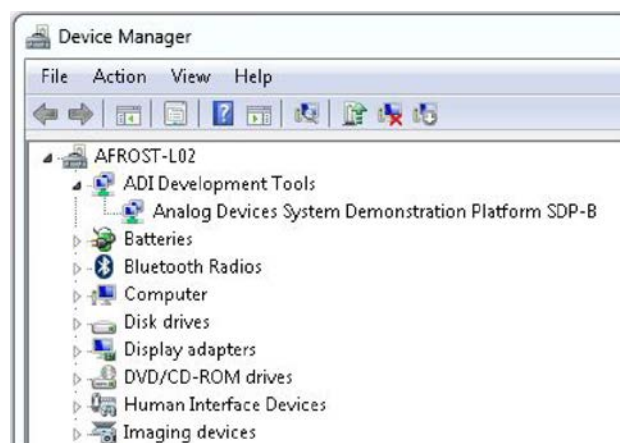

Figure 13. **Device Manager** Window— Checking the EVAL-SDP-CB1Z Is Connected to the PC Correctly
3. Under **ADI Development Tools**, **Analog Devices System Demonstration Platform SDP-B** appears (see Figure 13), indicating the EVAL-SDP-CB1Z driver software is installed and the board is connected to the PC correctly.